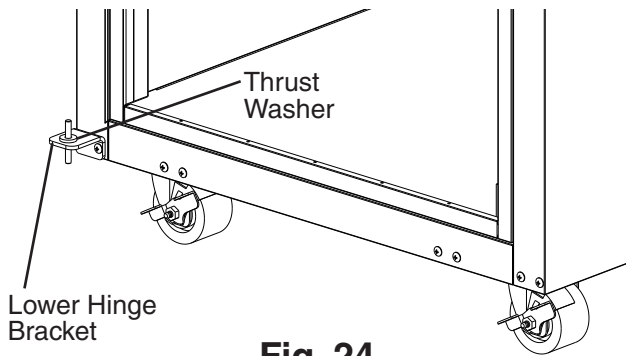
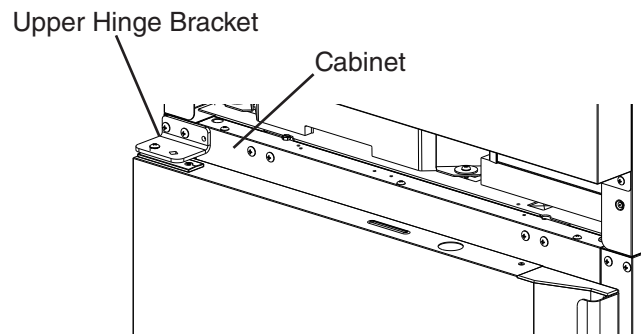

**Fig. 22**
**Fig. 23**
- 8) Clear foam from the spring cartridge hole to allow for spring cartridge installation. Install the spring cartridge and secure it to the door using the spring cartridge screws removed in step 6. See Fig. 22. Next, align the upper hinge bracket to the door in the orientation that allows for closed door installation. See Fig. 23. Secure the upper hinge bracket to the door using the screw and washer removed in step 6.